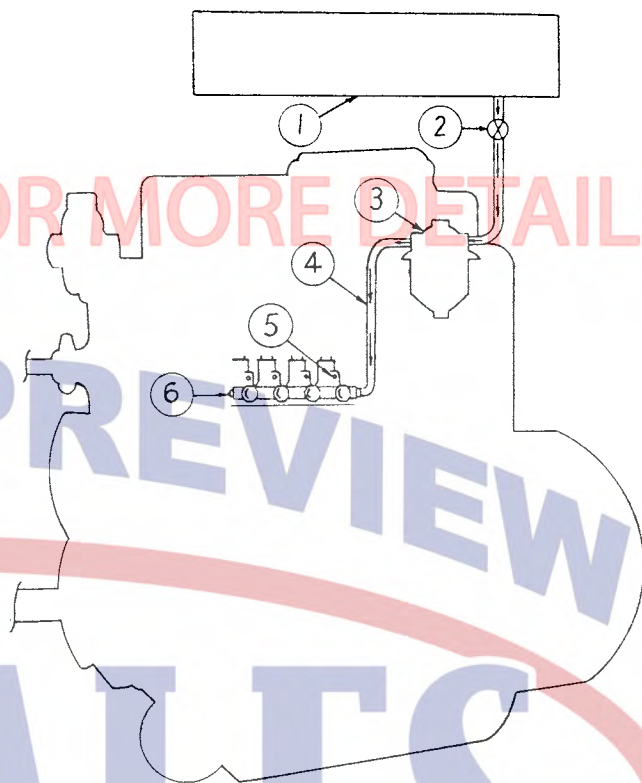

Figure 3 — Fuel Supply Piping, Gravity Feed
1. GRAVITY FEED—The following illustration (Fig. 3) may be referred to for the proper connections of the gravity feed fuel system. If the tank is not mounted on the engine the bottom of the fuel tank should be located at least one foot above the valve cover of the engine but the upper fuel level should not be more than ten to fifteen feet above the valve cover. Higher tanks than this may cause fuel to leak through the check valves into the engine cylinder. This will cause a smoky exhaust, or when the engine is not running may fill the cylinder with fuel thus causing breakage when the engine is started. You will note the line runs from the tank through a valve to the fuel filter and from the fuel filter to the fuel injection pump manifold.